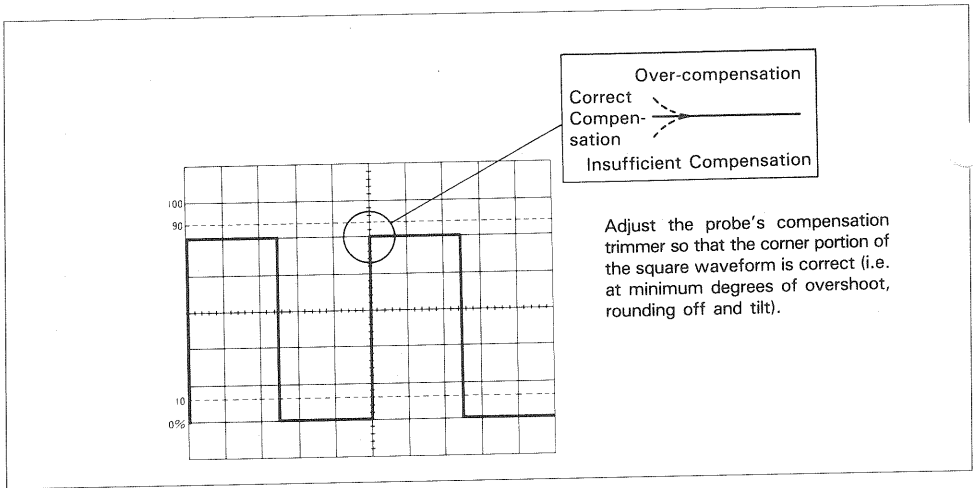

Figure 3. Probe Compensation Adjustment
4. Plug the probes into the INPUT jacks of each channel. Set the AC-GND-DC control at DC and the VERT MODE control at CH1. Plug the CH1 probe to the CAL terminal and set the VOLTS/DIV control at 20mV/DIV. Adjust the \blacklozenge POSITION control so that all of the waveform can be seen. With the waveform in this position, carry out probe compensation adjustment using Figure 3 and the probe Instruction Manual.